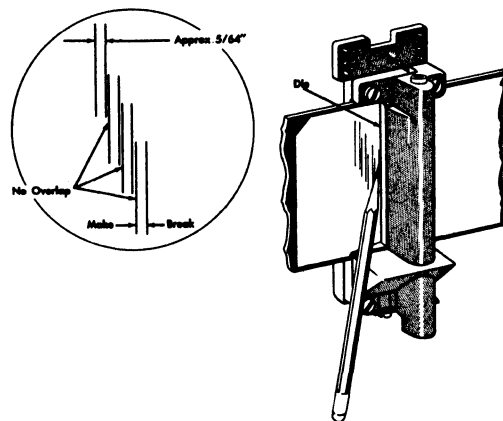

Figure 73. Program Sensing Contacts Adjustment
5. Mark card as shown in Figure 73.